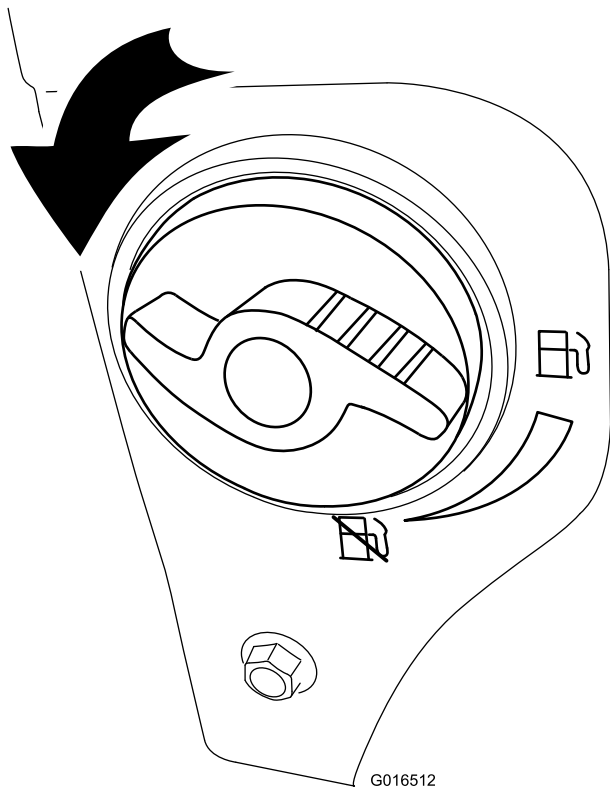

Figure 16
- Turn the fuel-shutoff valve 1/4 turn counterclockwise to open it (Figure 16).